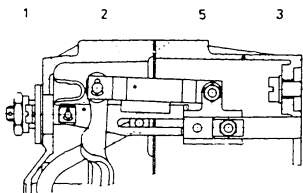

Fig. 1 Old model
By using the adjustable link fork, the four stop straps with varying dimensions previously used are no longer necessary (item 1, fig. 1).